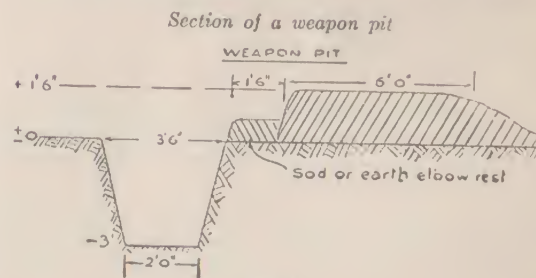

FIG. 5.
5. The average dimensions of the pits are 3 ft. 6 ins. wide at the top and 3 ft. deep. See Fig. 5.